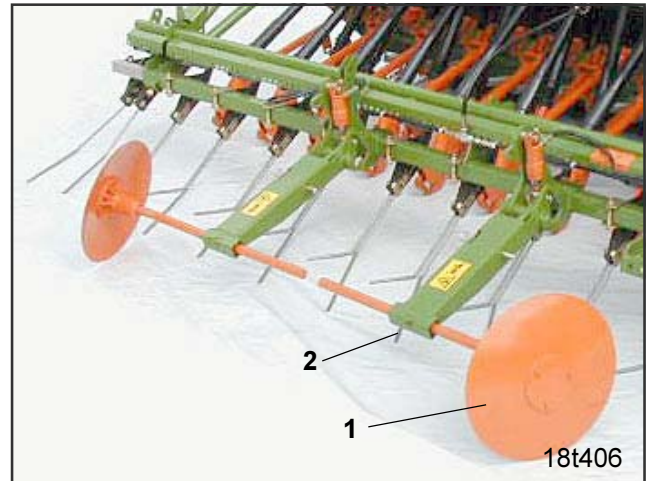

Fig. 28.4
The marker discs (Fig. 28.4/1) trace the tramlines created by the tramlining control unit and have to be set to the correct track width:
- Slacken hex. bolts (Fig. 28.4/2)
- Move the marker discs (Fig. 28.4/1) in the marker disc carrier arm corresponding to the track width of the tramlines.
- Firmly retighten hex. bolts (Fig. 28.4/2).
Tramlining control units with 2-bout switching rhythm or 6-plus switching rhythm are equipped in such a way that the track width of the husbandry tractor is traced when once driving up and down in the field. Therefore only fit one of the two marker rhythms (Fig. 28.4/1) when using these switching rhythms.